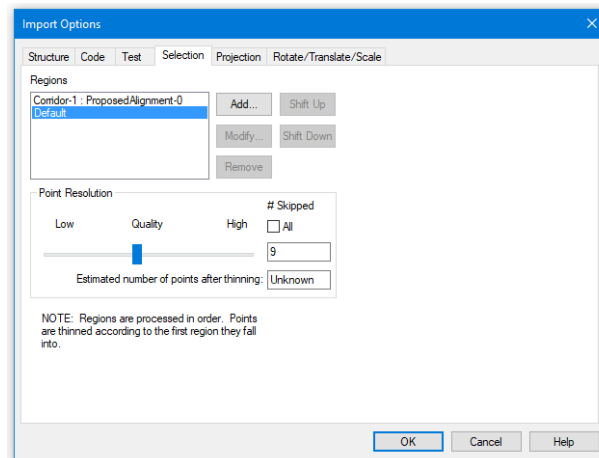

Figure 9-13: These Setup Options will skip most points outside of Corridor-1.
19. Click on **Default** in the list and set the Point Resolution to **9** (refer to Figure 9-13).